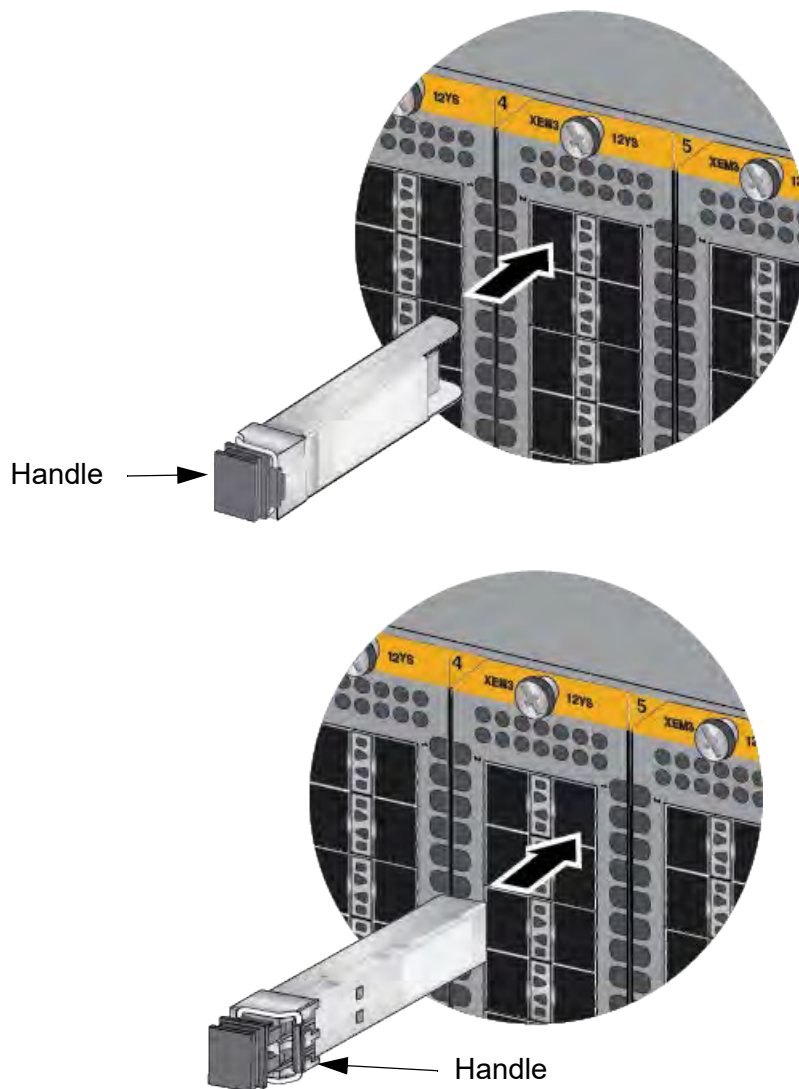

Figure 50. Example of Installing SFP Transceivers in the XEM3-12YS Module
- XEM3-12YS Module - For odd numbered ports, position the transceiver with the handle on the right. For even numbered ports, position the transceiver with the handle on the left. Refer to Figure 50 on page 92.